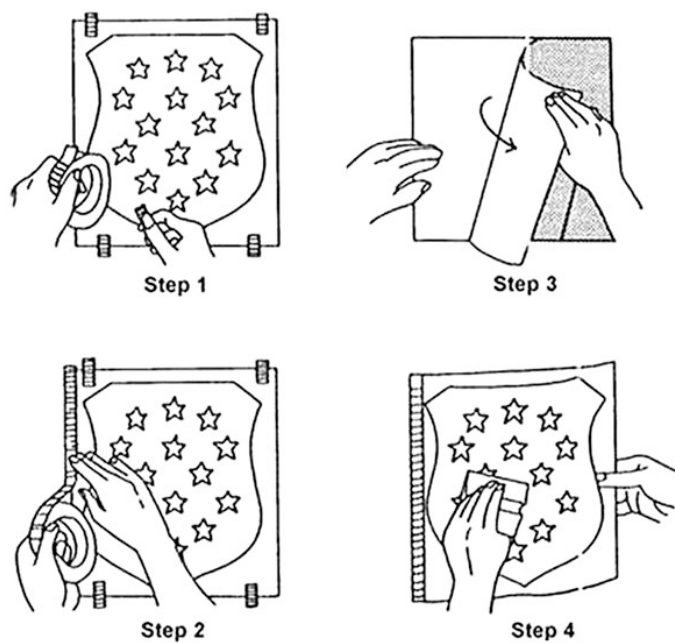

Figure 5-22. Large emblem application.
1. Hinge method - Apply large decals using the hinge method, as shown in figure 5-22. Tape the decal into position with small pieces of masking tape. Apply 1 to 2 inches along one edge to serve as a hinge. To finish the application, fold the entire decal back over the hinge. Start removing the backing at the hinge point. Hold the decal away from the surface with one hand and allow the adhesive to touch only as pressure is applied. Squeegee or roll the decal to the surface with firm, overlapping strokes. Be sure the edges are firmly adhered.